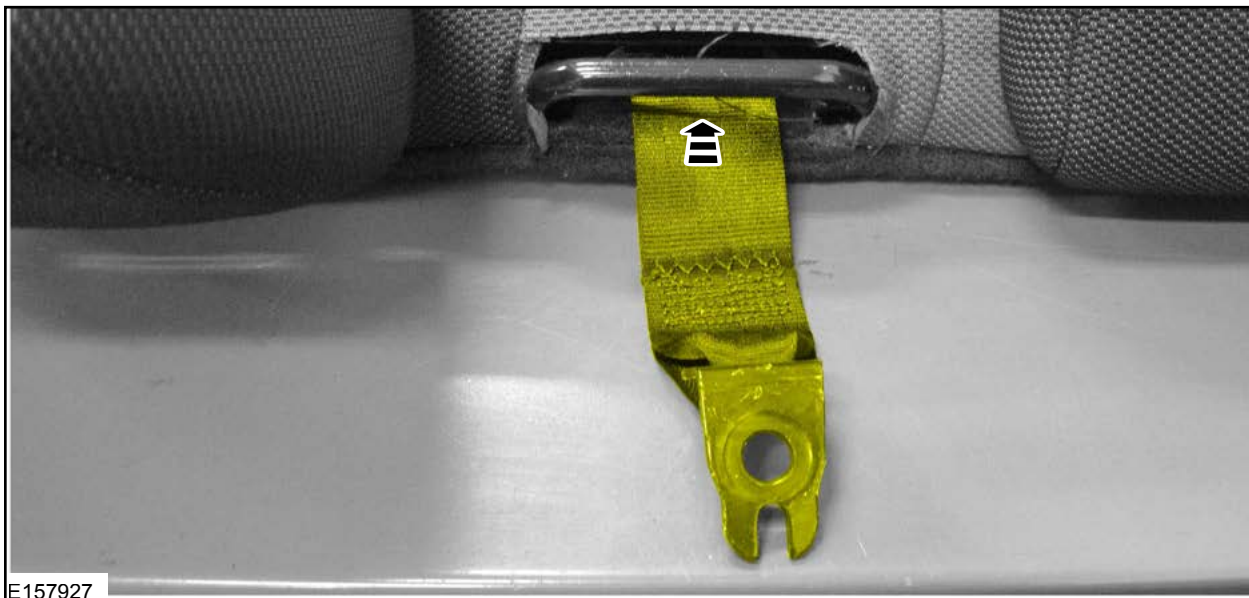

FIGURE 6
8. Route the seatbelt through the guide. See Figure 6.
See Figures 6 and 12.